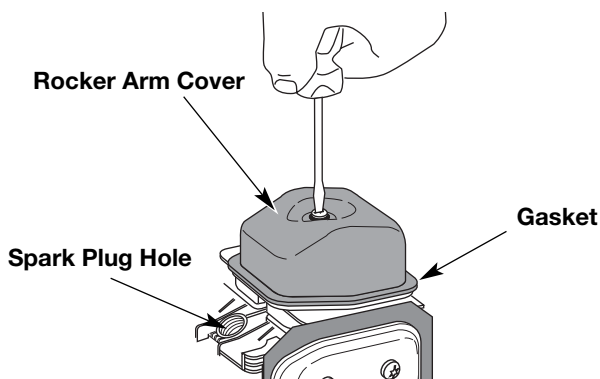

Fig. 25
6. Clean dirt from around the rocker arm cover. Remove the screw holding the rocker arm cover with a large flat blade screwdriver or Torx T-25 bit (Fig. 25). Remove the rocker arm cover and gasket.
- The piston is at the top of its travel while looking in the spark plug hole (Fig. 25)